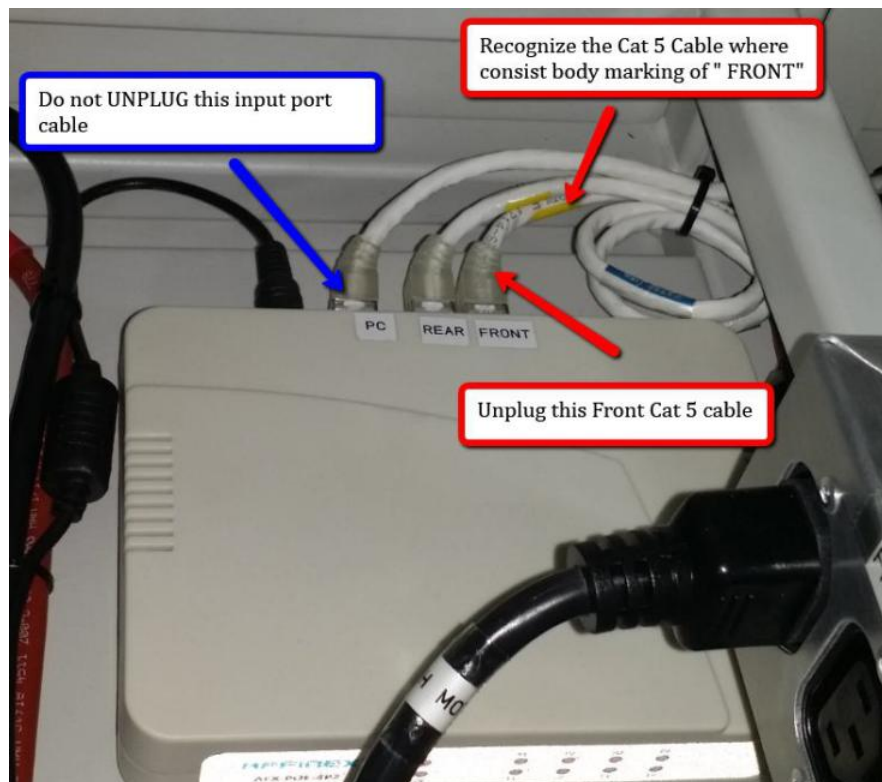

Figure 5 POE SWITCH CAT 5 CABLE
- Perform Marking at below cable and unplug Front Cat 5 cable at POE SWITCH (which allocated at rear server area) as below Figure 5.